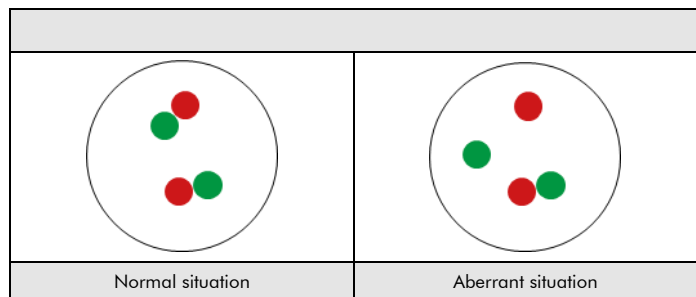

Fig. 2: Expected results in normal and aberrant nuclei
**Normal situation:** In interphases of normal cells or cells without a translocation involving the EML4 gene region, two red/green fusion signals appear (see Fig. 2).
**Aberrant situation:** One EML4 gene region affected by a translocation is indicated by one separate green signal and one separate red signal (see Fig. 2).